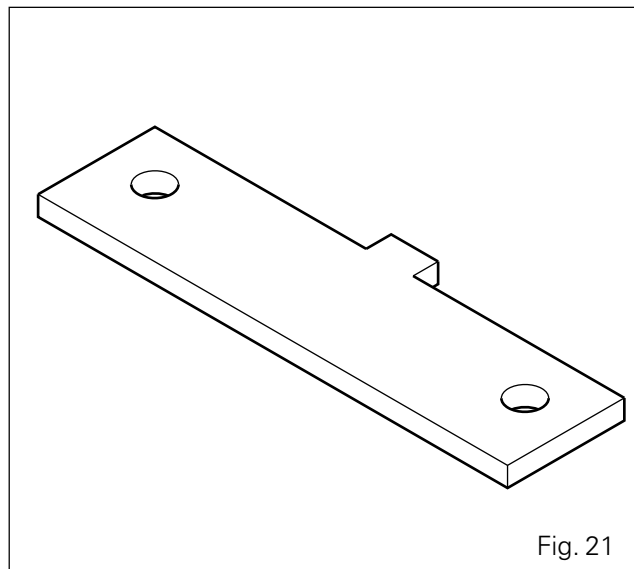

Fig. 21
- 3378240 M1 - Planetary carrier immobilizing tool (Fig. 21)